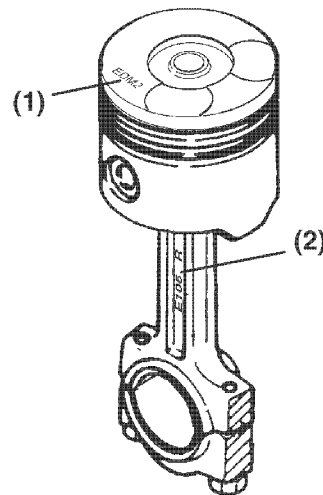

Figure 6-89
2. Place the connecting rod into the piston. The identification mark (**Figure 6-89, (1)**) on the top of the piston and the embossed mark (**Figure 6-89, (2)**) on the beam of the connecting rod will be facing in the same direction.